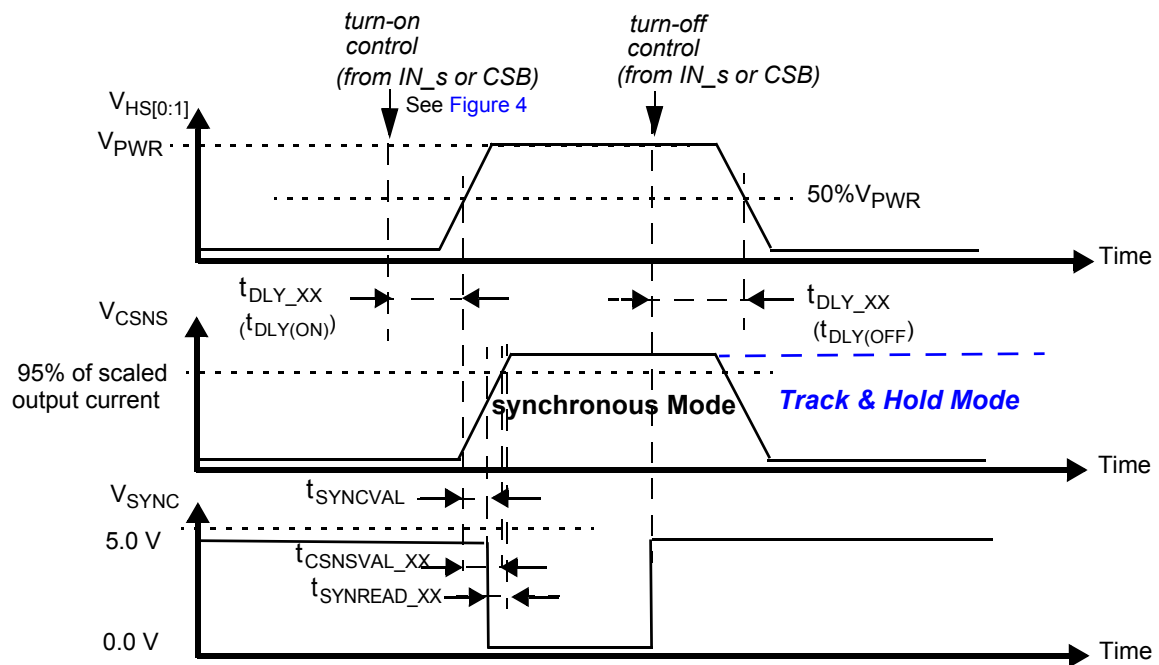

Figure 9. Synchronous & Track-and-Hold Current Sensing Modes: Associated Delay & Settling Times
32. Time required to switch off the channel after detection of overtemperature (OT), overcurrent (OC), SC or UV error (time measured between start of the negative edge on the FSB pin and the falling edge on the output voltage until $V(\text{HS}[0:1]) = 50\%$ of V_{PWR}).
33. Settling time ($= t_{CSNSVAL_XX}$), SYNC output signal delay ($= t_{SYNCVAL_XX}$) and Read-out delay ($= t_{SYNREAD_XX}$) are defined for a stepped load current ($100\text{ mA} < I(\text{LOAD}) < I(\text{OCLX A FOR CSNS_RATIO_S} = 1, \text{ AND } 300\text{ mA} < I(\text{LOAD}) < I(\text{OCLX A}_0 \text{ FOR CSNS_RATIO_S} = 0)$). (see Figure 9 and Output Current Monitoring \(CSNS\))
- Settling time ($= t_{\text{CSNSVAL_XX}}$), SYNC output signal delay ($= t_{\text{SYNCVAL_XX}}$) and Read-out delay ($= t_{\text{SYNREAD_XX}}$) are defined for a stepped load current ($100\text{ mA} < I(\text{LOAD}) < I_{\text{OCLX A}}$ FOR $\text{CSNS_RATIO_S} = 1$, AND $300\text{ mA} < I(\text{LOAD}) < I_{\text{OCLX A}_0}$ FOR $\text{CSNS_RATIO_S} = 0$). (see Figure 9 and Output Current Monitoring \(CSNS\))
The CS pin allows independent current monitoring of channel 0 or channel 1 up to the steady-state overcurrent threshold. It can also be used to sense the device temperature. The different functions are selected by setting bits CSNS1_en and CSNS0_en to the appropriate value (Table 23). When the CSNS pin is sensed during switch-off in the (optional) track & hold mode (see Figure 9), it outputs the scaled value of the load current as it was just before turn-Off. When several devices share the same pull-down resistor, the CSNS pins of devices the current of which is not monitored must be tri-stated. This is accomplished by setting CSNS0_en = 0 and CSNS1_en = 0 in the GCR register (Table 10). Settling time ($t_{CSNSVAL_XX}$) is defined as the time between the instant at the middle of the output voltage's rising edge ($HS[0:1] = 50\%$ of V_{PWR}), and the instant at which the voltage on the CSNS-pin has settled to $\pm 5.0\%$ of its final value. Anytime an overcurrent window is active, the CSNS pin is disabled (see Overcurrent Detection on Resistive and Inductive Loads). The current and temperature sensing functions are unavailable in Fail-safe mode and in Normal mode when operating without the V_{DD} supply voltage. In order to generate a voltage output, a pull-down resistor is required ($R(CSNS) = 1.0\text{ k}\Omega$ typ. and $470 < R(CSNS) < 10\text{ k}\Omega$). When the current sense resistor connected to the CSNS pin is disconnected, the CSNS voltage is clamped to $V_{CL(CSNS)}$. The CSNS pin can source currents up to about 5.6 mA.
To synchronize current sensing with an external process, the SYNC signal can be connected to a digital input of an external MCU. SYNC is asserted logic low when the current sense signal is accurate and ready to be read. The current sense signal on the CSNS pin has the specified accuracy $t_{SYNREAD_XX}$ seconds after the falling edge on the SYNC pin (Figure 9) and remains valid until a rising edge is generated. The rising edge that is generated by the SYNC pin at the turn-OFF instant (internal or external) may also be used to implement synchronization with the external MCU. Parameter t_{SYNVAL_XX} is defined as the time between the instant at the middle of the output-voltage rising edge ($HS[0:1] = 50\%$ of $VPWR$), and the instant at which the voltage on the SYNC-pin drops below 0.4 V (V_{SOL}). The SYNC pins of different devices can be connected together to save μ -controller input channels. However, in this configuration, the CSNS function of only one device should be active at a time. Otherwise, the MCU does not determine the origin of the SYNC signal. The SYNC pin is open drain and requires an external pull-up resistor to VDD.